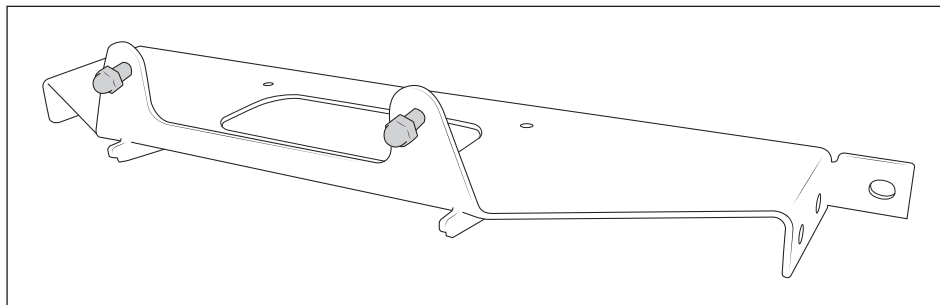

Figure 30
1. Feed $\frac{1}{2}$ " bolts through holes in fairlead portion of winch bracket so that they point forward (fig. 30).